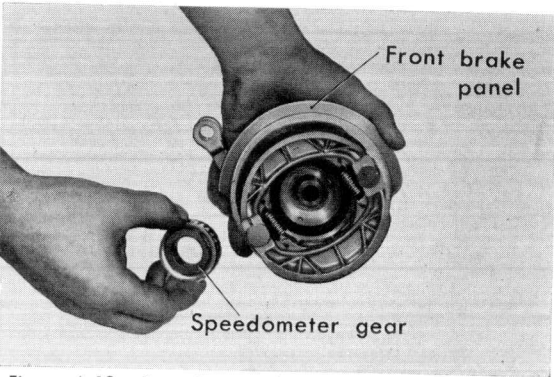

Figure 4-19. Removing speedometer gear
- (5) Remove the front brake cam and the speedometer gear from the front brake panel. (Fig. 4-19)
- (6) Remove the tire and tube from the rim using a tire lever and pull out the tube from the tire.